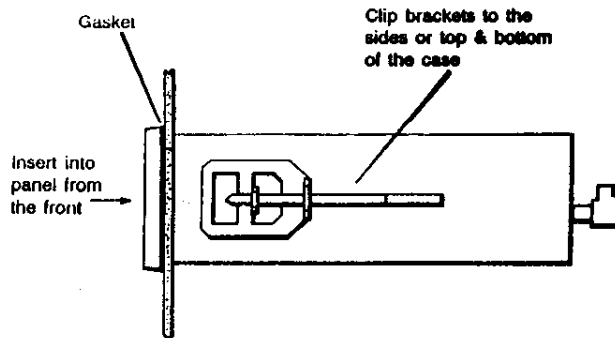

Fig 4 Installation in panel
- ii. Clip a retaining bracket to each of two opposite sides of the instrument as shown in Figure 4 and tighten the two retaining bracket screws until the indicator is secure. Do not overtighten.